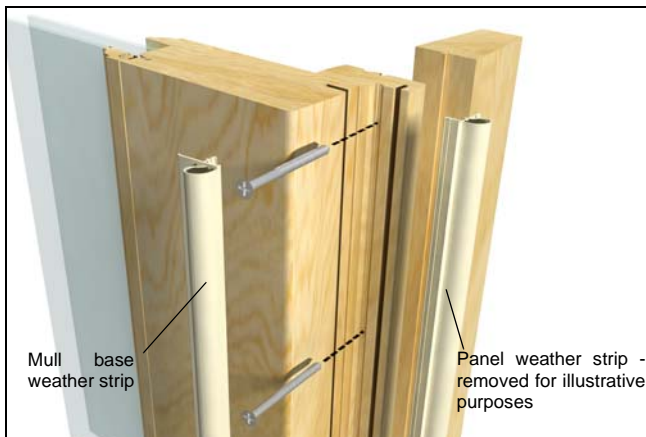

Figure 13
9. On wood units place the stationary panel into the frame. Reinstall screws securing mull casing to the stationary panel. Apply new weather strip along the entire length of the mull base See figure 13.